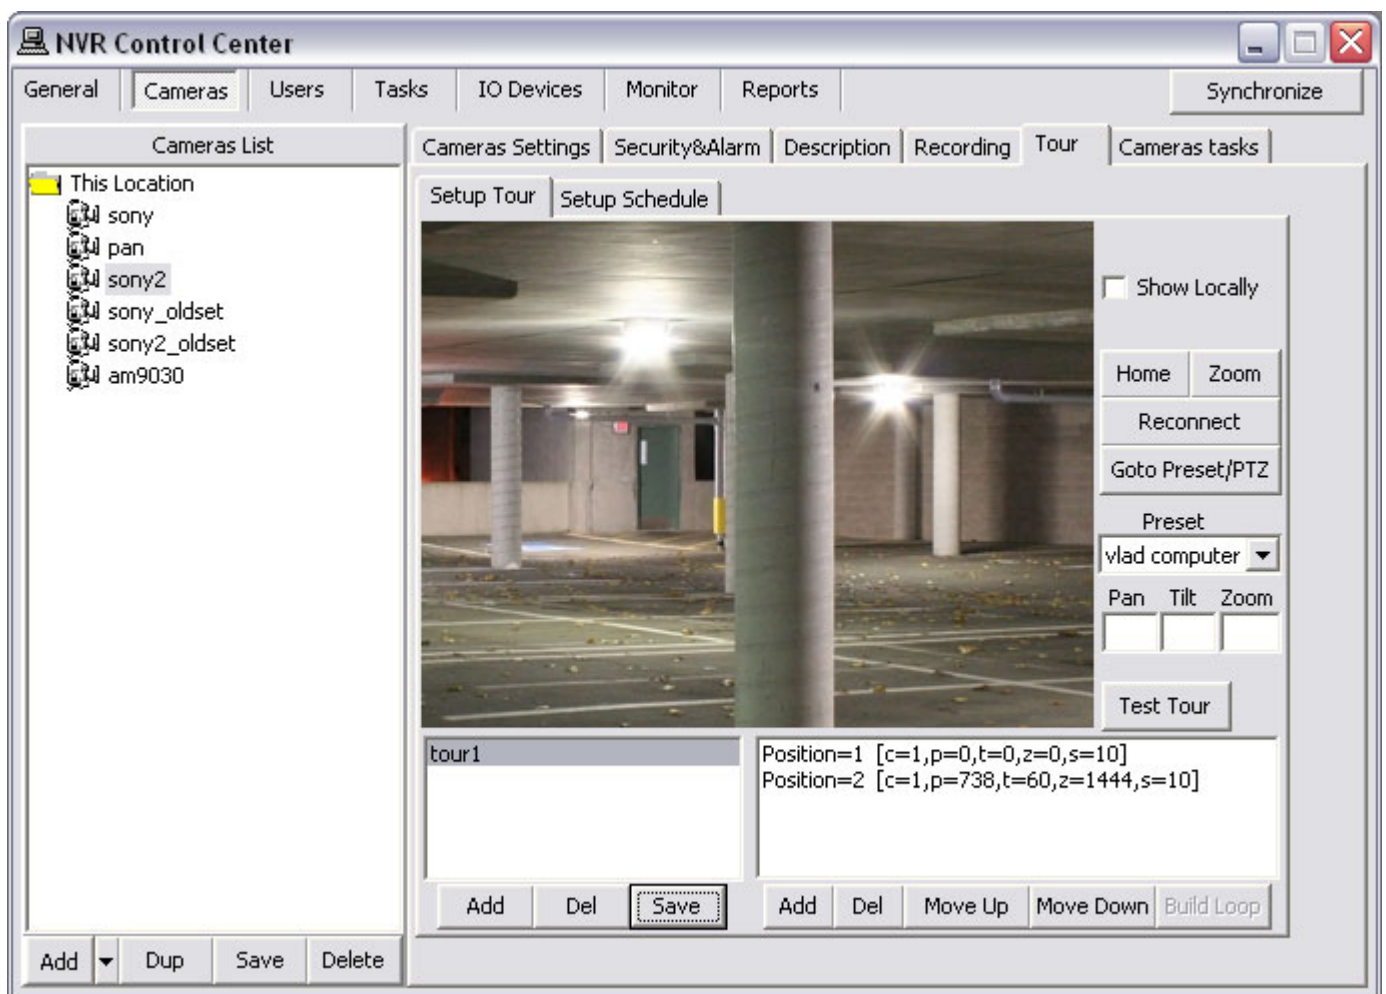

Fig 35. NVR Control Center — Cameras — Tour
1. In the **NVR Control Center — Cameras** select a PTZ camera from the **Cameras List** and switch to the **Tour — Setup Tour** — connection will be established (Fig 35).